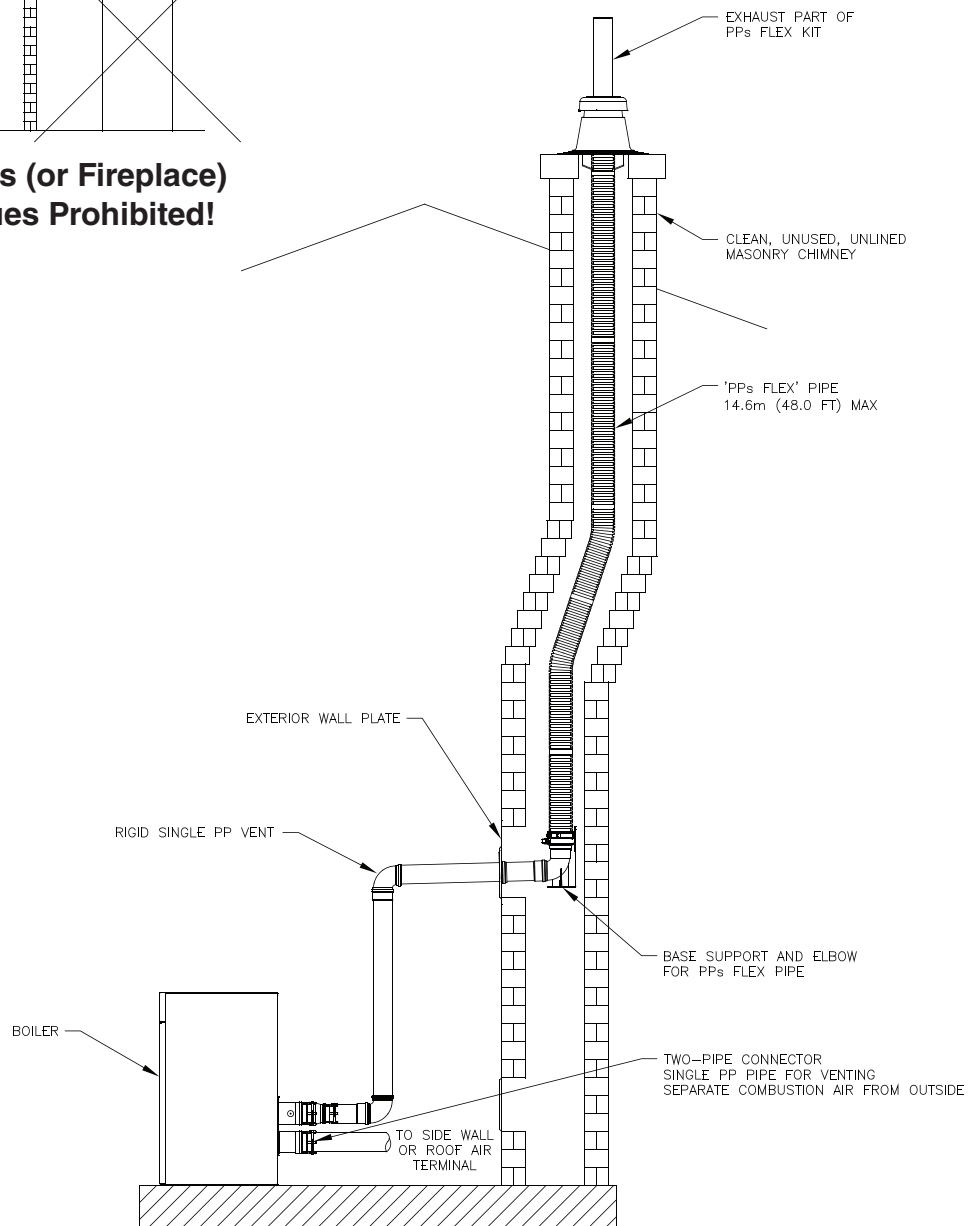

Figure 16A: Flexible PP Vent in UNUSED Masonry Chimney with Separate Combustion Air Intake
- b. Refer to Figures 16A or 16B for details of masonry chimney chase or B-Vent chase installation.